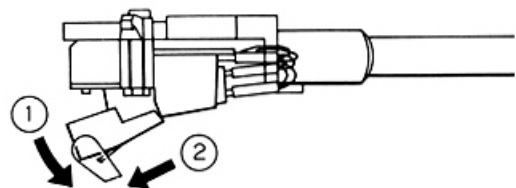

Abb. 8 / Fig. 8
- Install the ST-100SD replacement stylus assembly (available from your authorized Fisher dealer) by gently pushing it upward and backward into the cartridge body. (Fig. 8)